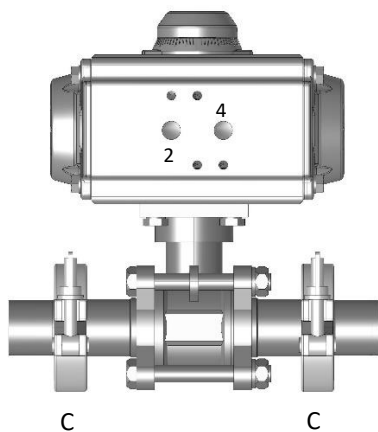

Figure 10: Fastening clamp ends
4. Connect the clamp of the ball valve and the clamp of the pipeline with a suitable closing clamp **C**, see Figure 10.